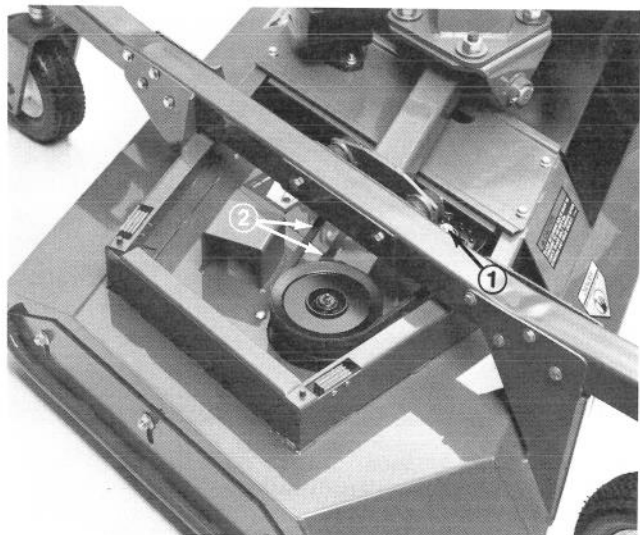

Figure 62
2. To tension belts, loosen flange locknut at top of idler pulley (Fig. 62). Slide pulley against belt until proper tension is reached. Hold pulley in position and tighten locknut.
2. Remove deck covers and relieve belt tension on all belts (Fig. 62).